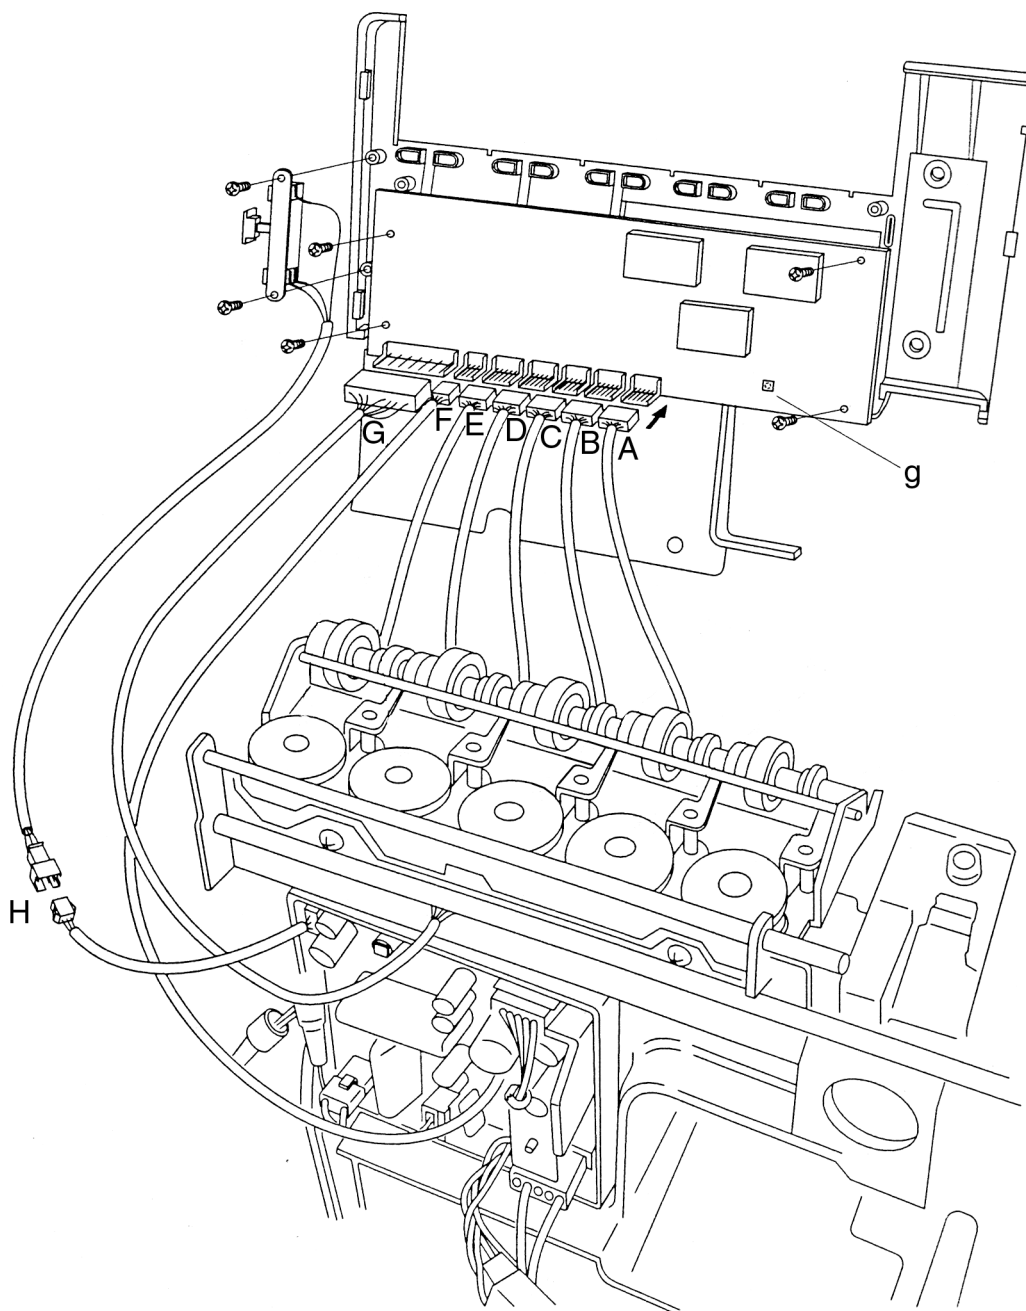

Fig. 8
- Pull the front housing panel carefully toward the front (fig. 8, on page 10).